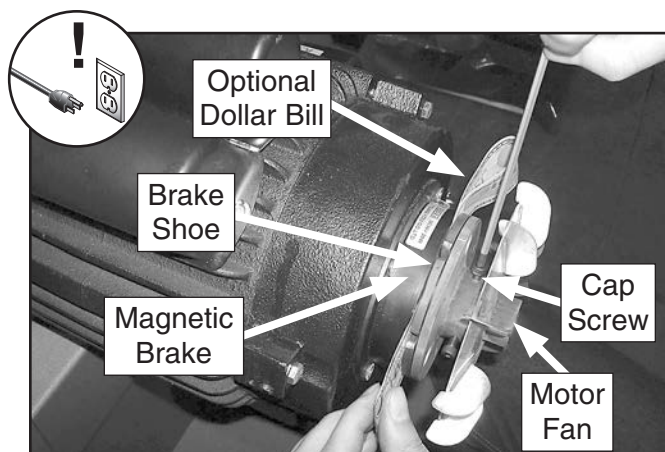

Figure 118. Adjusting distance between magnetic brake and brake shoe.
- Remove the motor fan cover, then loosen the cap screws securing the motor fan and brake shoe (see **Figure 118**).